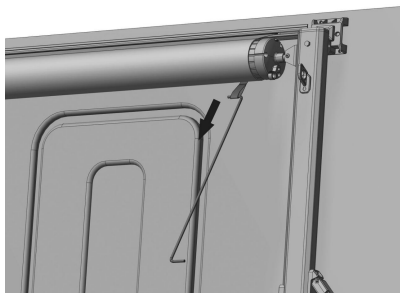

Figure D4
4.1.3 Insert the elbow on one side of the pull wand into the loop belt of the ratchet , and pull the awning outward until it is fully extended. (Figure D4)